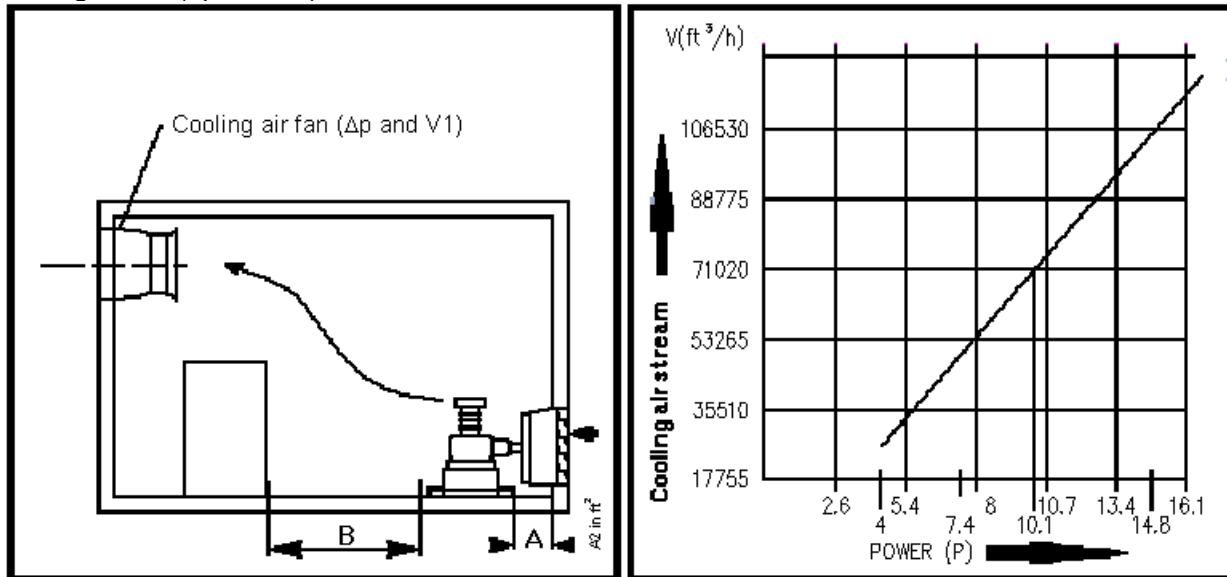

Fig. 17: Installation with forced ventilation
- When locating the compressor in rooms of less than 39.2 cu. yd. space where natural ventilation is not ensured, measures must be taken to provide artificial ventilation (this also applies when other systems having high radiation are operating in the same room (see Fig. 17).